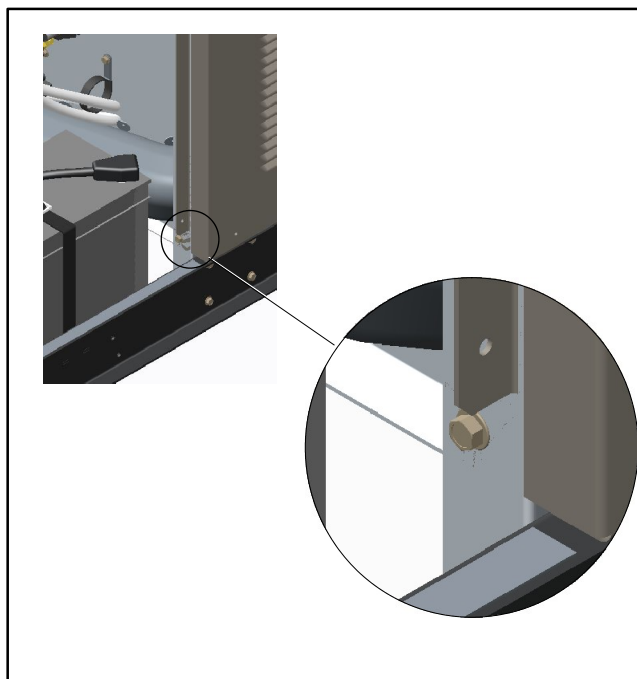

**Figure 3** Location of roof screws
2. Remove the roof screws. See Figure 3.